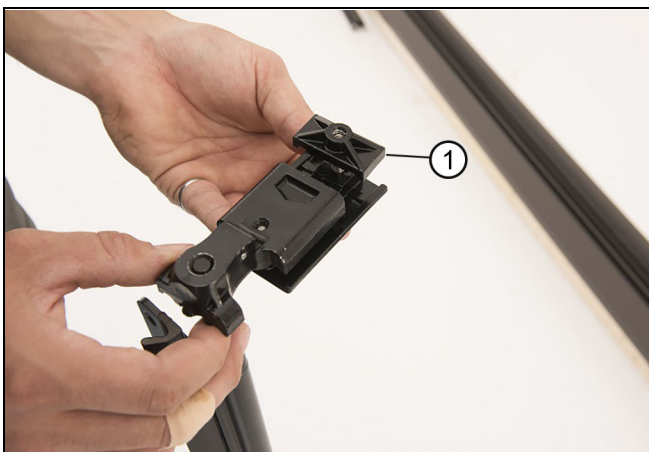

Figure 45
3. Rotate the clamp and tighten the bolt furthest from the jamb. See Figure 45 and Figure 46.